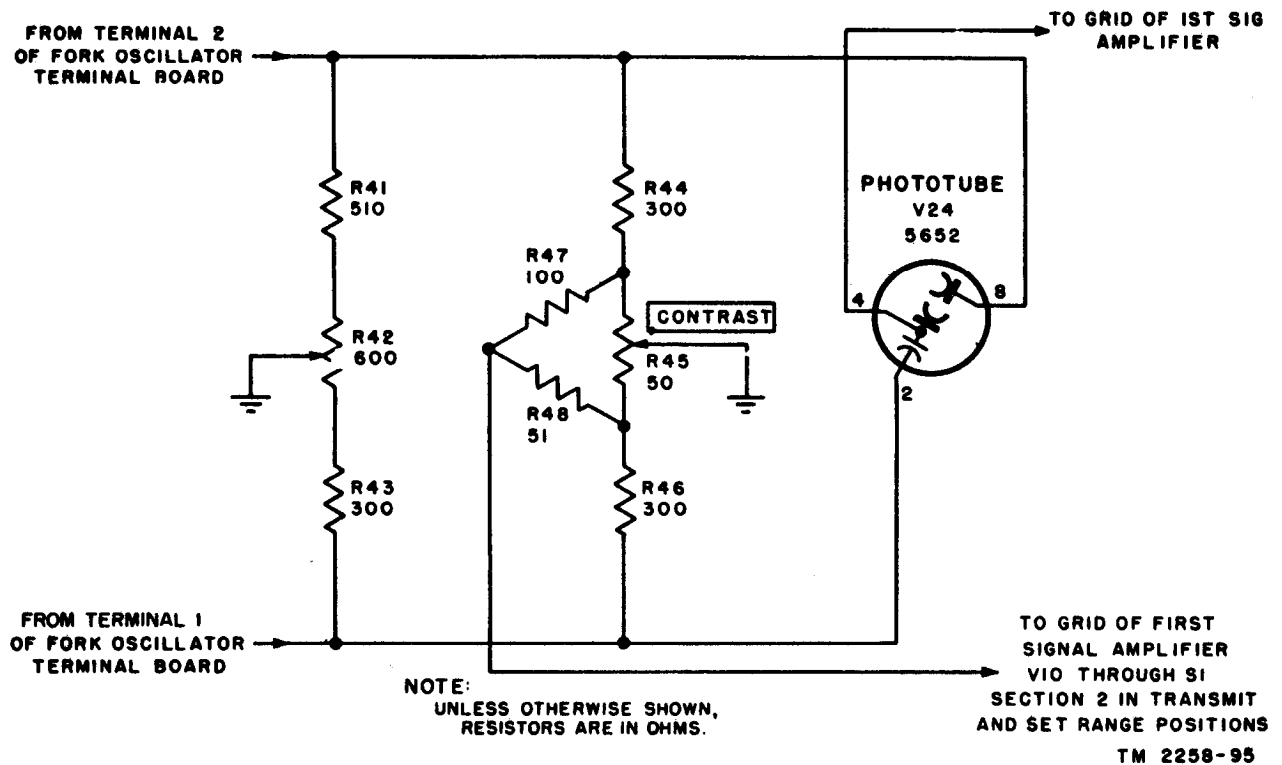

Figure 49. Photocell bridge modulator, Facsimile Transceivers TT-1D/TXC-1, TT-1E/TXC-1, and TT-1F/TXC-1.
- (2) Facsimile Transceivers TT-1D/TXC-1, TT-1E/TXC-1, and TT-1F/TXC-1 (fig. 49). A type 5652 tube is used as the photocell in these units. Resistor R49 is not used and the regulated +250 volts is not needed since this tube operates linearly without the injection of fixed bias. Capacitor C58 is not used since the null point can be closely adjusted in these models (because of the operating characteristic of photocell tube 5652) with the slide arm of R42 connected directly to ground. Resistor R50 (fig. 52) is the grid resistor of V10, the high side connecting both to the cathode of the photocell and to the grid of V10. Its low potential side is returned to ground through R47, R48, and R45, when selector switch S1 (section 3) is in the TRANSMIT or SET RANGE position. On other settings of the selector switch, the bridge circuit continuity is interrupted.